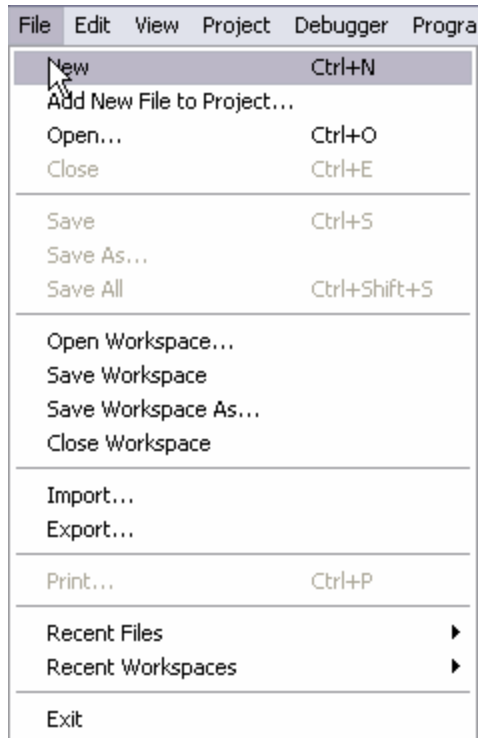

Figure 12: New File
Step 10: Create a new file by selecting "File" -> "New" (Figure 12).